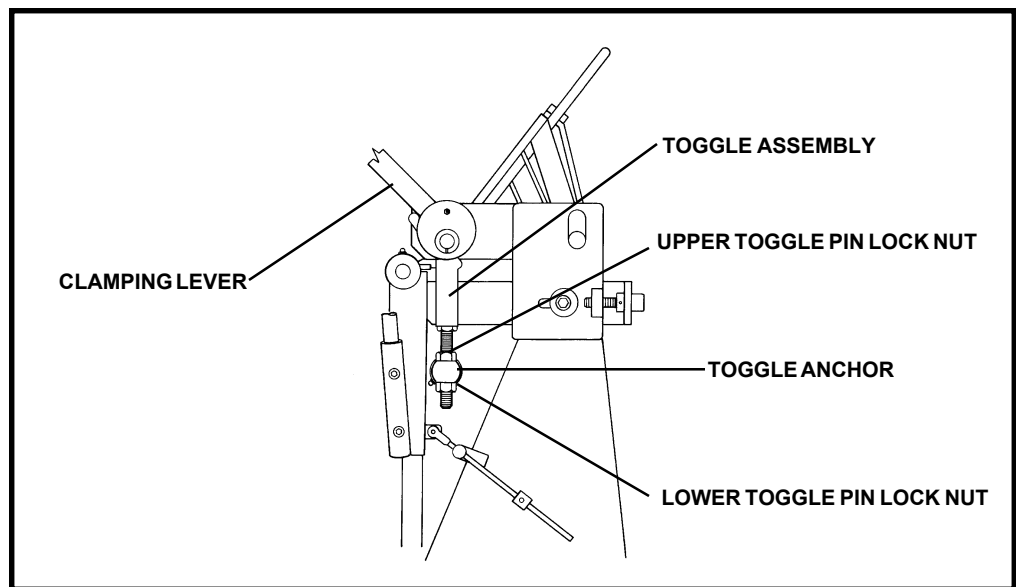

Figure 3. Clamping Pressure Adjustments.
1. At each end of the brake, loosen both toggle pin lock nuts slightly before beginning adjustment (see Figure 3).
3. At each end of the machine, tighten the lower toggle pin lock nut against the toggle anchor just enough to hold material firmly when the clamping lever is against the forward stop (see Figure 3).
4. At each end of the machine, tighten upper toggle pin lock nut against the toggle anchor (see Figure 3).